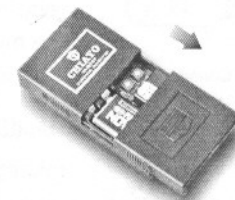

Fig.2
2.To access the battery, pull out the battery cover as in Fig.2.